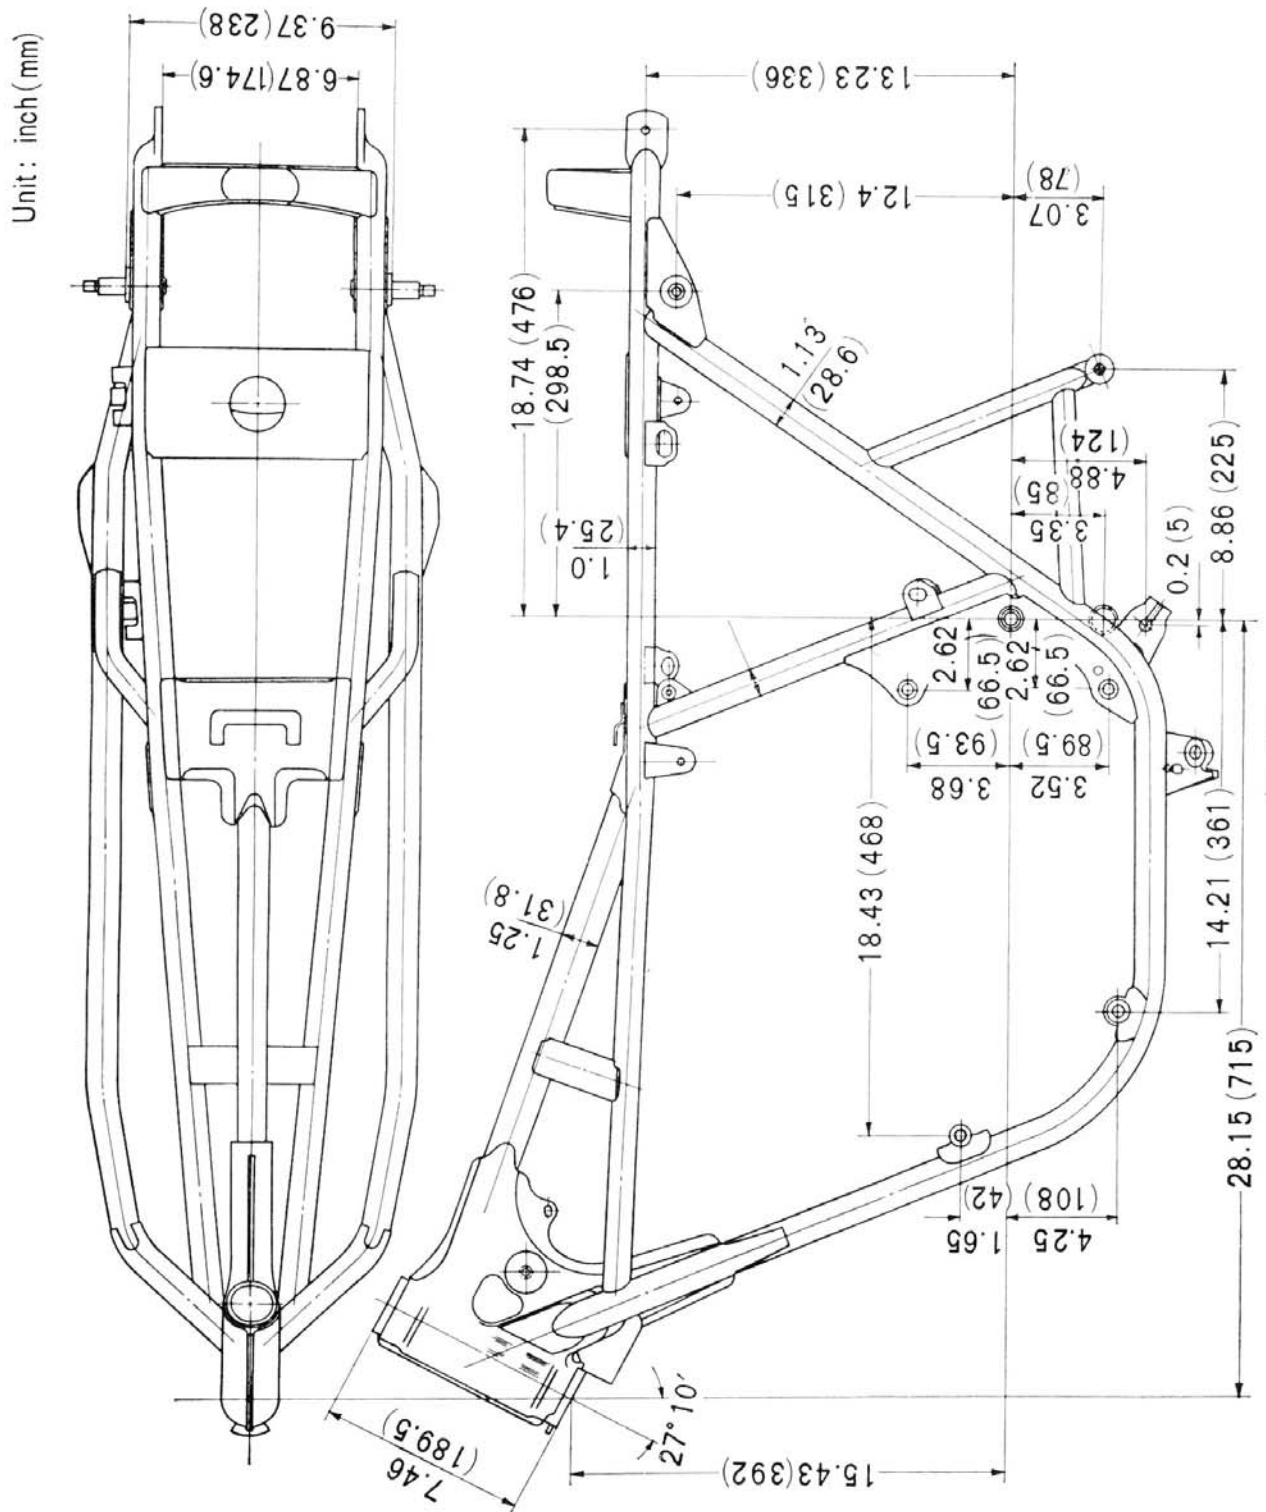

Fig. 15-5
1. Check for bend and damage to the frame and repair using a press. (Fig. 15-5 shows the dimensions of the frame body.